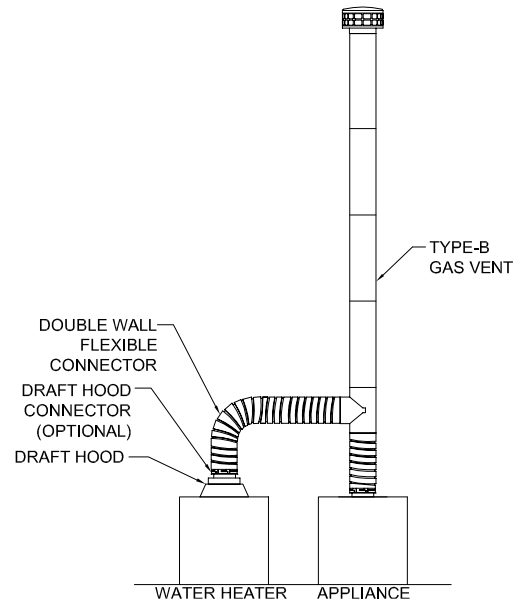

**FIG. 4**
- A single appliance (See **FIG. 4**) or